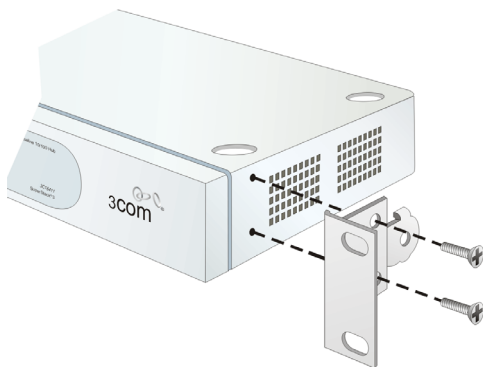

Figure 2-1 Mounting Bracket Installation (Ethernet Hub)
1. Secure one mounting bracket to each side of the first hub (Figure 2-1). Use the two brackets and four pan-head Phillips screws (8/32 x 0.5-inch) provided.